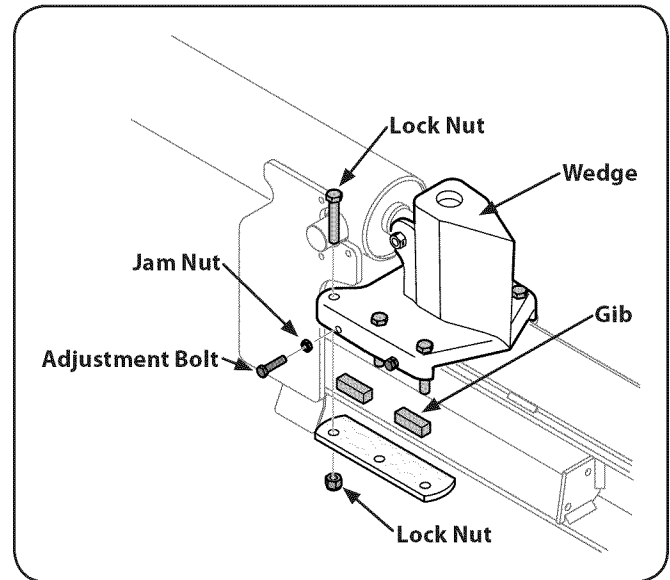

Figure 6-3
- Loosen the lock nuts under each back plate and slide the gibs out. See Fig. 6-3.
1. Loosen the jam nuts on the two adjustment bolts on the side of the wedge. See Fig. 6-3.